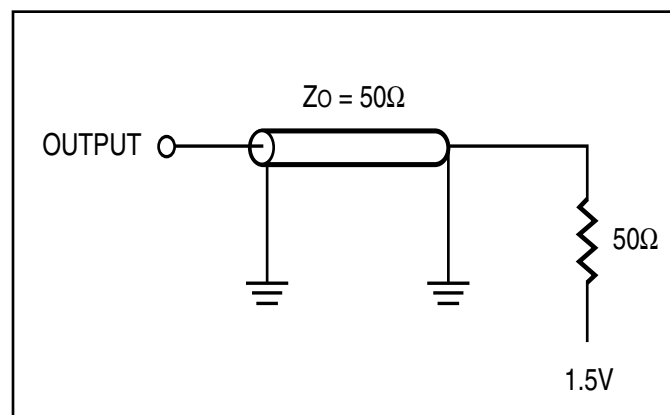

Figure 1
| Output Load | See Figures 1 and 2 |
3. Tested with load in Figure 1.
1. Tested with load in Figure 1.